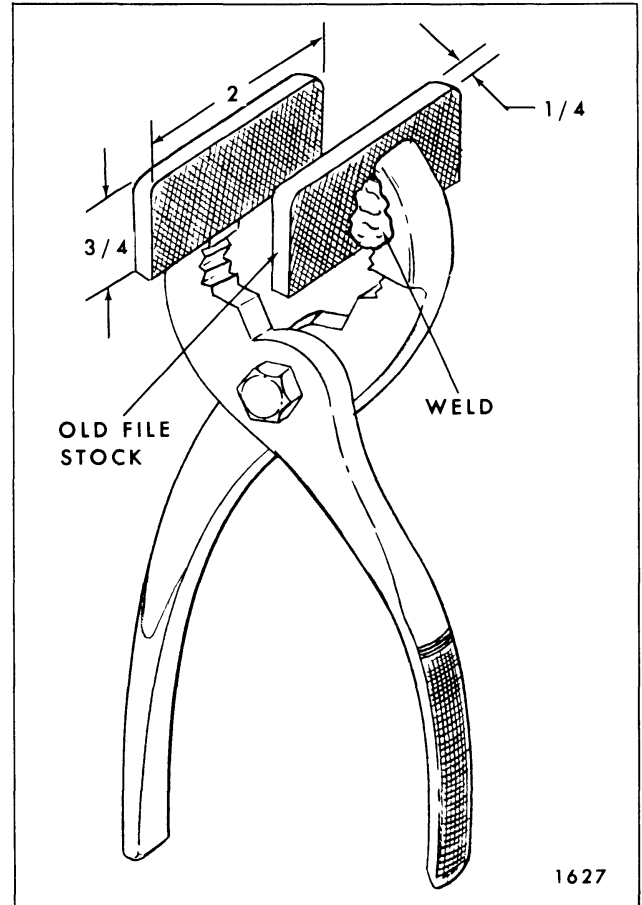

Fig. 8-17-Fabric Roof Cover Pliers
**NOTE:** Where new cover is installed at temperatures below 72 degrees, fabricated pliers will aid in removing wrinkles (see Fig. 8-17).